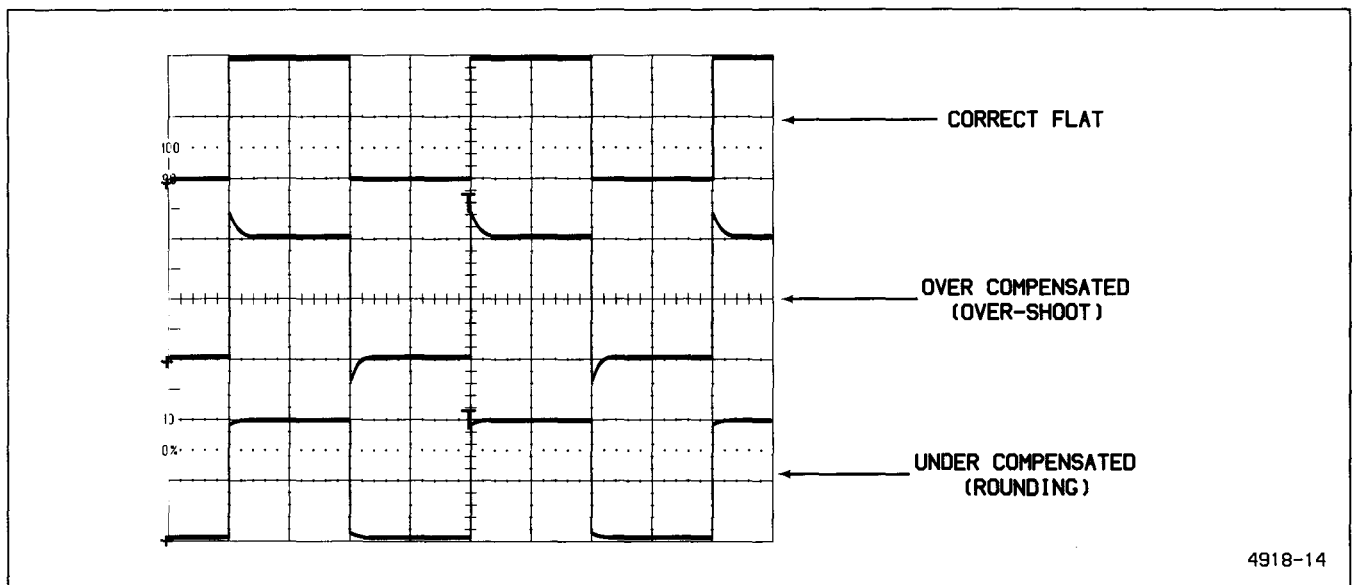

Figure 5-1. Probe low-frequency compensation.
7. Check the square-wave signal for overshoot and rolloff (see Figure 5-1). If necessary, use a small-bladed screwdriver to adjust the low-frequency compensation for a square front corner on the square wave.